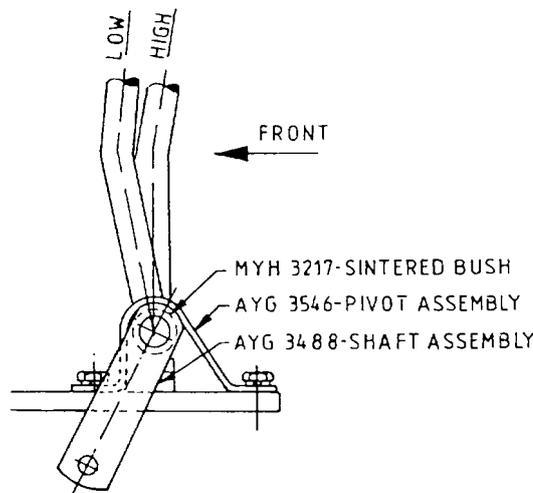

Figure 60 High/Low Range Selector Lever
- e. Remove the bolts securing the pivot assemblies to the transmission casing (Figure 60).